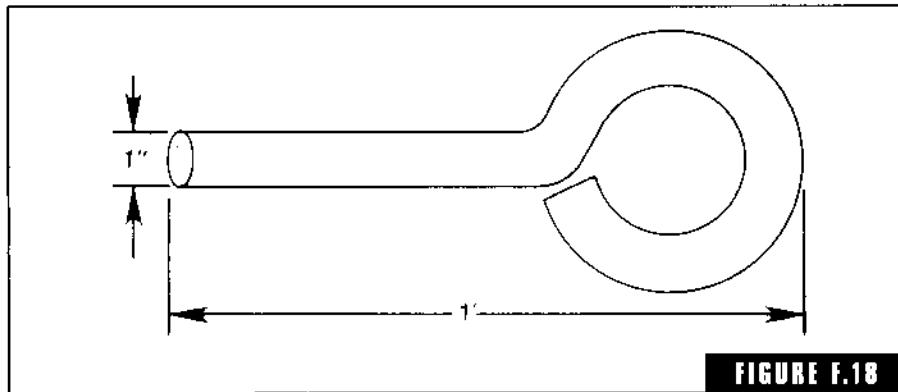

FIGURE F.18
**French rammer** The French rammer is a piece of 1 inch diameter cold roll steel turned to an eye on one end and slightly tapered on the other (Fig. F-18). The bulk of the ramming is done with the eye.